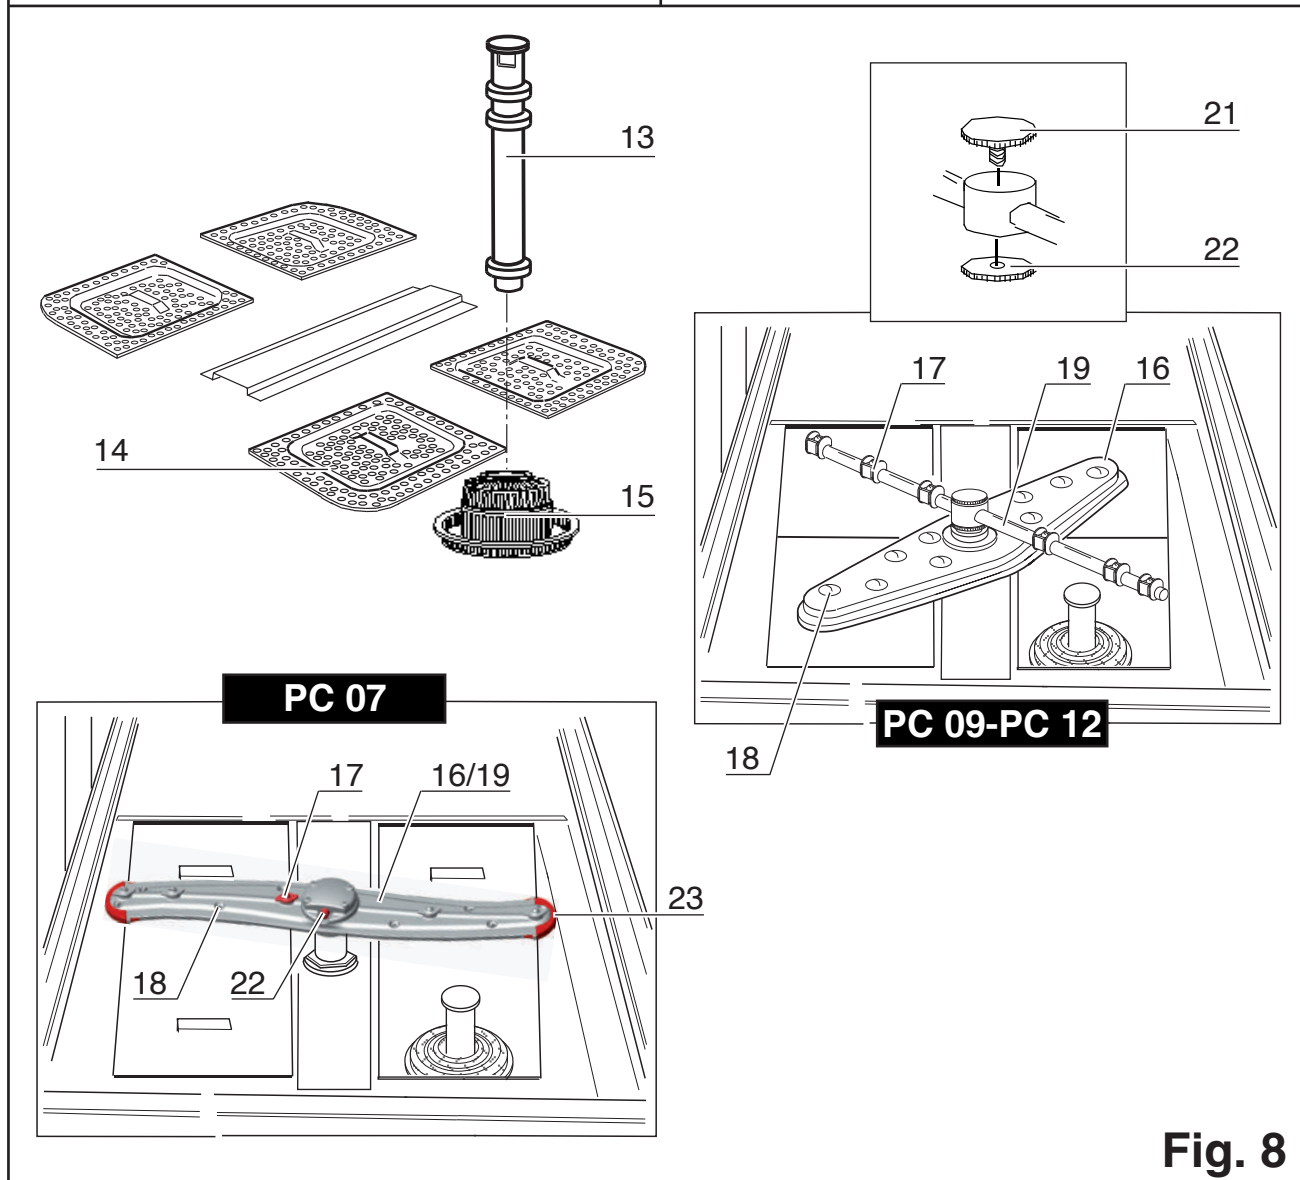

Fig. 8
3.3 RINSE AGENT LIQUID DOSAGE WITH A HYDRAULIC PUMP (FIG. 8)
3.4 DETERGENT LIQUID DOSAGE (Fig. 8) (only for machines with an incorporated dispenser)
3.3 DOSAGGIO LIQUIDO BRILLANTANTE CON POMPA IDRAULICA (Fig. 8)
3.4 DOSAGGIO LIQUIDO DETERGENTE (Fig. 8) (solo per macchine con dosatore incorporato)